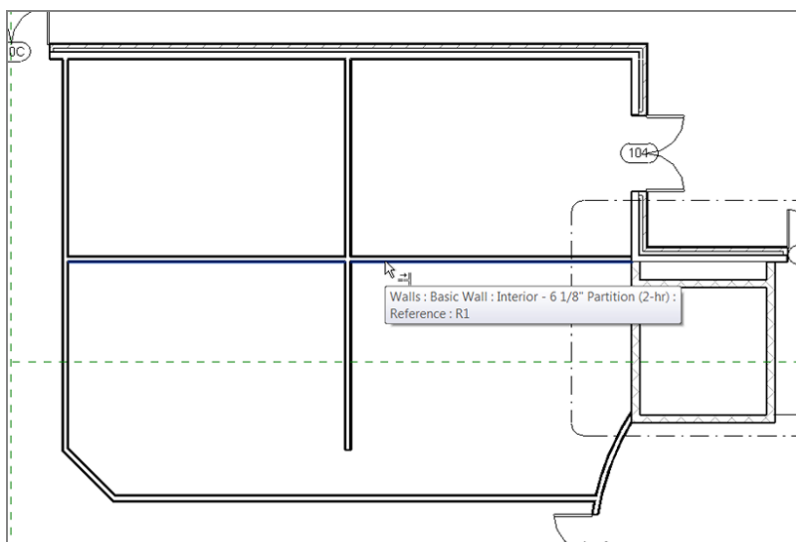

FIGURE 4.45: Zoom in to this area to start trimming the walls.
4. Zoom in on the area, as shown in Figure 4.45.
5. To trim the vertical wall back to the horizontal wall, you must first pick the wall that you want to trim. In this case, select the south face of the horizontal wall (see Figure 4.45).